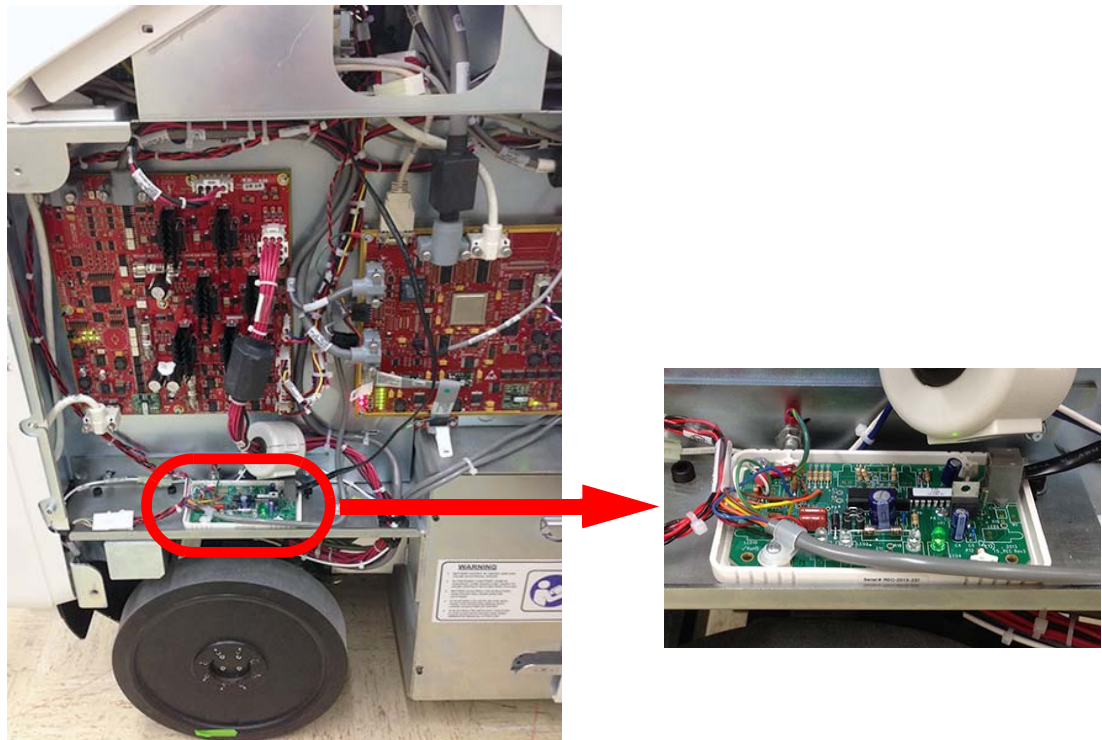

Figure 2-4 Mount PCB module in bottom of Thorax
4. Mount the PCB Module in the bottom of the Thorax as shown below (Figure 2-4) by removing the adhesive liner and applying pressure to activate the adhesive.